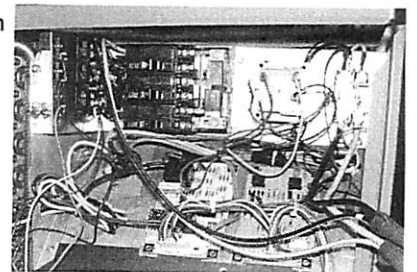

FIG. 3- Control panel installed.
2. Secure heater control plate to the upper left side of the unit control panel box with (4) screws provided (see fig. 3).
3. Connect the **(5-pin)** low voltage harness plug to the fan control board at position **P4** located inside the unit control box compartment (see fig. 3).
4. Connect Black & Yellow "pigtailes" from control panel to Black & Yellow "pigtailes" from unit contactor using (2) connectors provided with heater.